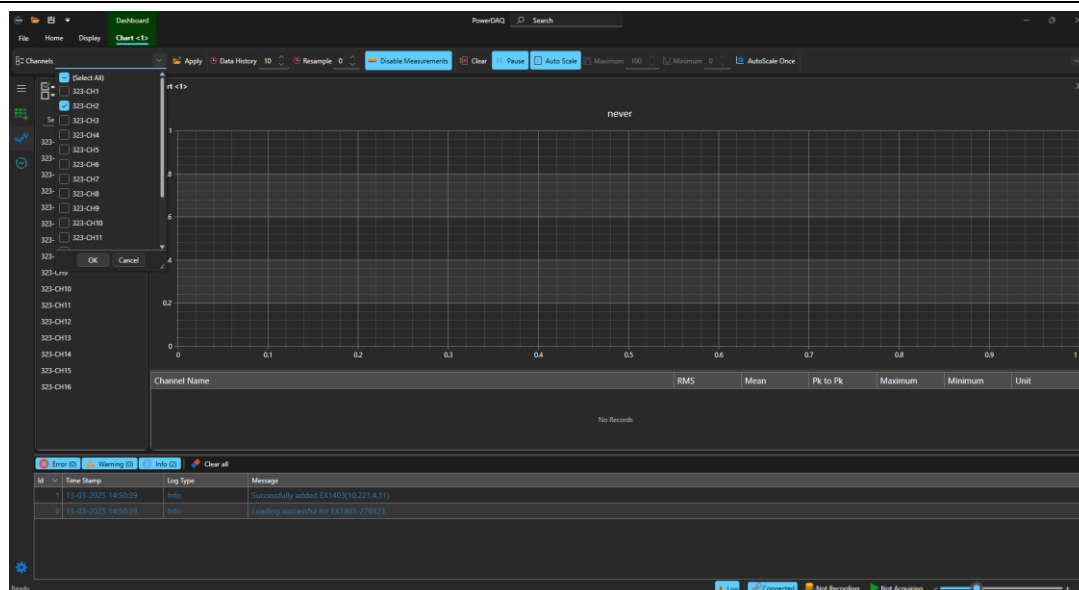

Figure 27. Channel Drop-down
4. Select the preferred channel/s from the **Channels** drop-down available on the **Chart<1>** tab as shown in Figure 27. Click **OK** to apply.